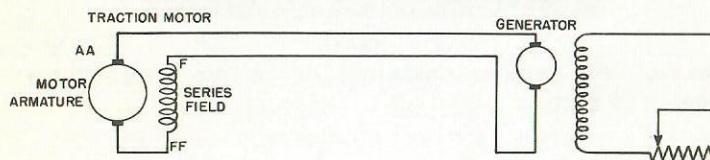

Fig. 34-10
a. Disconnect motor leads from locomotive wiring and connect motor as a series motor to be driven from an outside source of power such as a welding set (3 to 5 kw at 100 volts). See diagram of connections, Fig. 34-10.